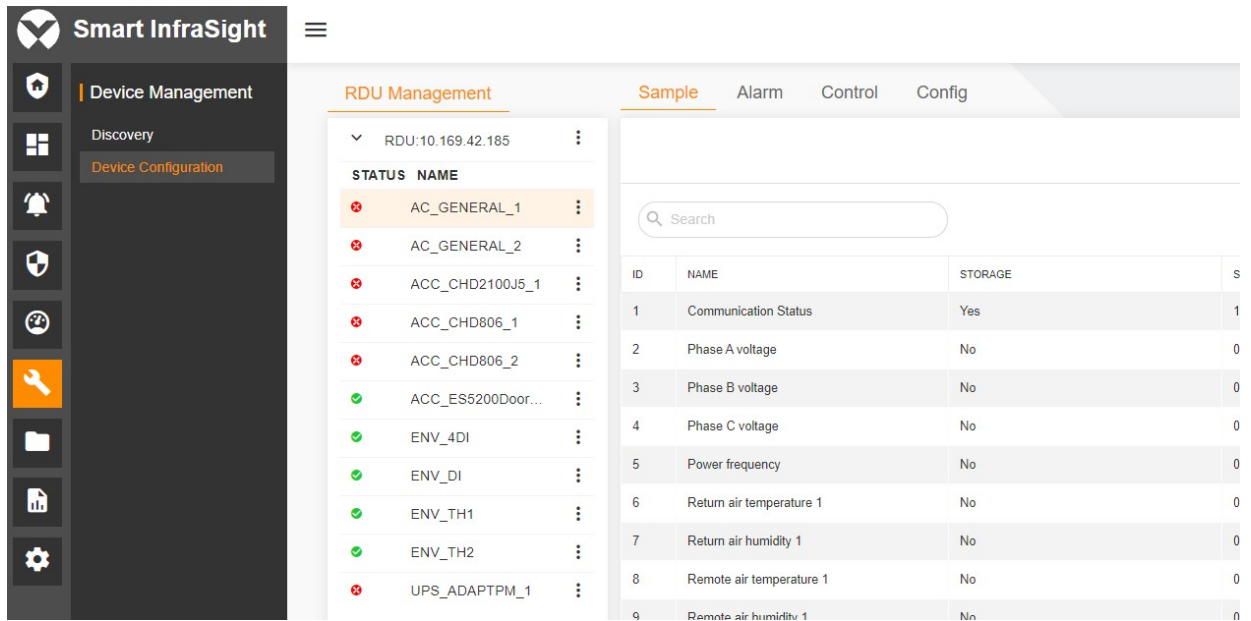

Figure 6-22 Displaying the signal list
1. Click any device row under the RDU. The signal list of the device is displayed on the **Sample** tab page accordingly. When the **Device Configuration** page is loaded initially, the first device under the first RDU is selected by default (as shown in Figure 6-22).